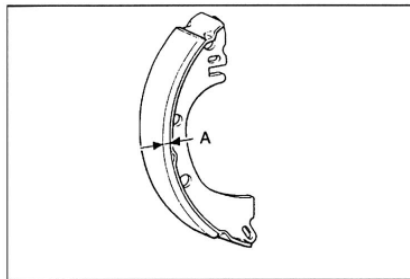

Fig. 16-23
- (1) Remove the brake drum.
- (2) Measure the thickness of the brake lining at the place where worn is serious(see Fig. 16-23)